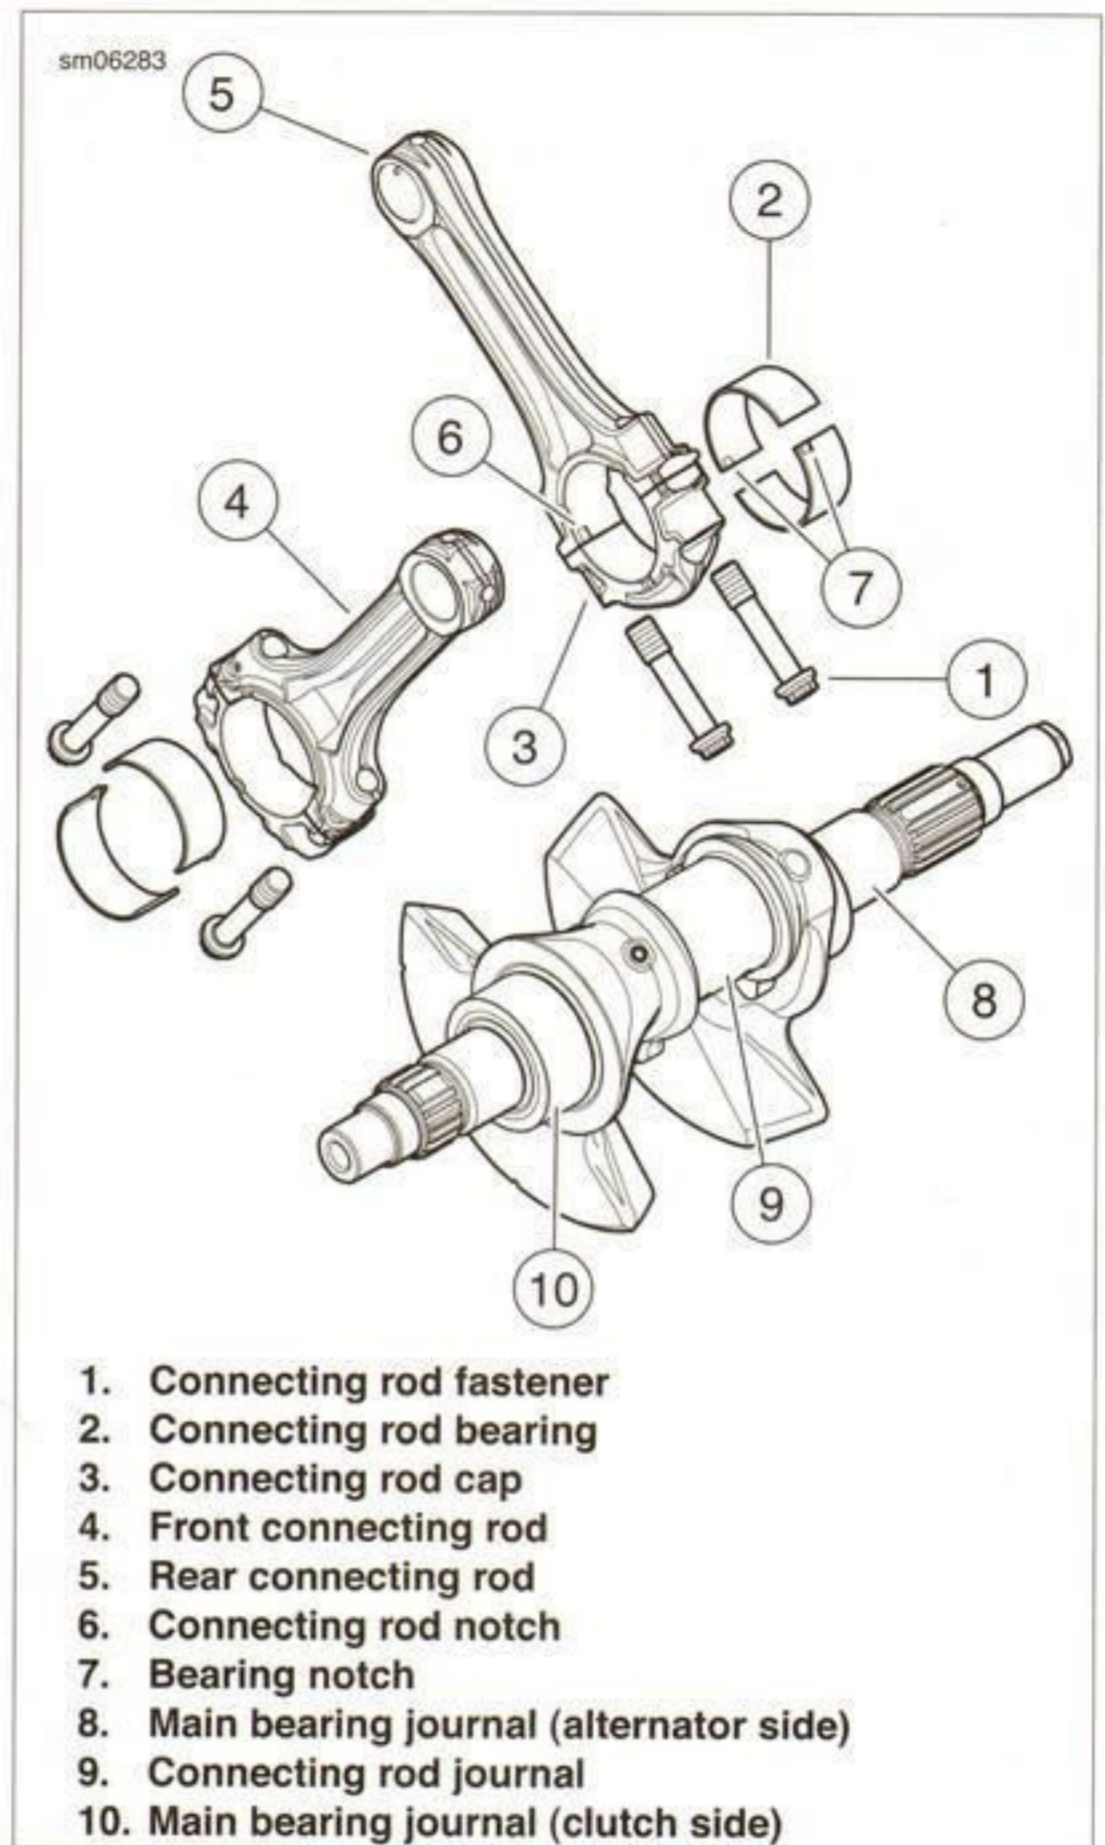

Figure 3-192. Crankshaft Assembly
See Figure 3-192. To keep track of connecting rod and end cap position and orientation. Mark connecting rods (4, 5) and end caps (3) before removal.
2. Remove connecting rod end cap fasteners (1). Discard fasteners.
4. Remove connecting rod bearings (2). Discard bearings.
2. See Figure 3-192. Inspect connecting rod journal (9) and bearing surfaces for excessive wear or discoloration. Replace if necessary.
See Figure 3-192. When installing the connecting rod bearings (2), be sure notches in bearings (7) fit into notches in connecting rods (6).
- b. Connecting rod journal (9)
4. See Figure 3-192. Install front connecting rod (4) and cap (3) on clutch side of connecting rod journal (9). Install rear connecting rod (5) and cap on alternator side of connecting rod journal.
5. Install **new** connecting rod fasteners (1) in end caps.